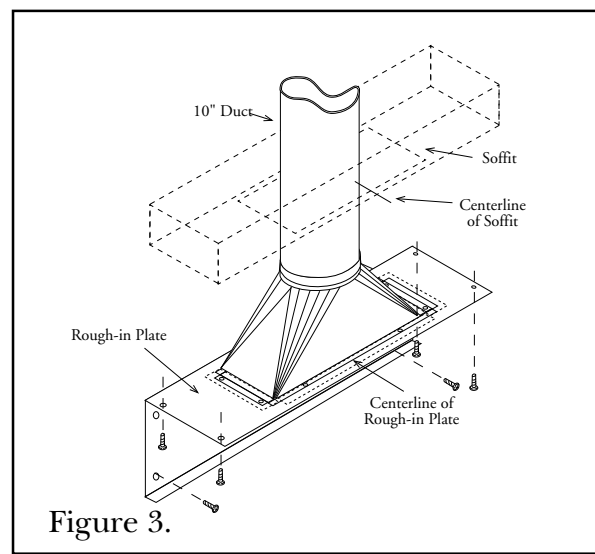

Figure 3.
5. Mark the center of the rough-in plate and align with the center of the soffit. (See Figure 3.)
6. Install rough-in plate to the soffit, using four (4) #10x1" screws packed with the plate. (See example for 36" hood in Figure 3.) These screws must be driven into the soffit framing.